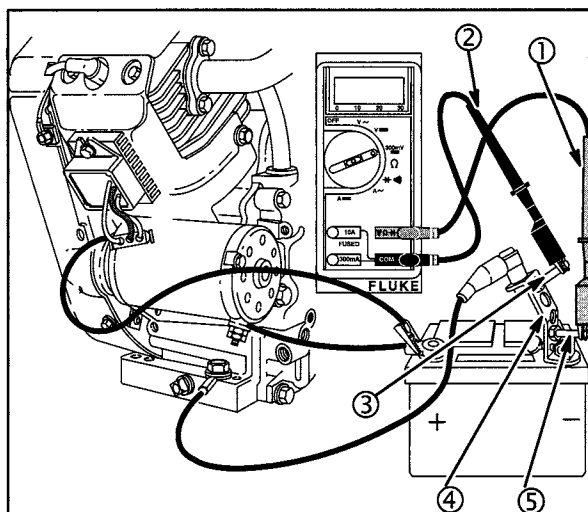

Fig. 32
The DC Shunt **must** be installed on the **NEGATIVE** (-) terminal of the battery, **Fig. 32** to avoid blowing the fuse in the meter when testing the output of the 20 amp system. All connections must be clean and tight for correct readings.
2. Install DC shunt #19359 (4) on **NEGATIVE** battery terminal.
3. Insert RED test lead into **VΩ** receptacle in meter and connect to RED post terminal on shunt (5), **Fig. 32**.
4. Insert BLACK test lead into **COM** receptacle in meter. Connect to BLACK post terminal on shunt (3).